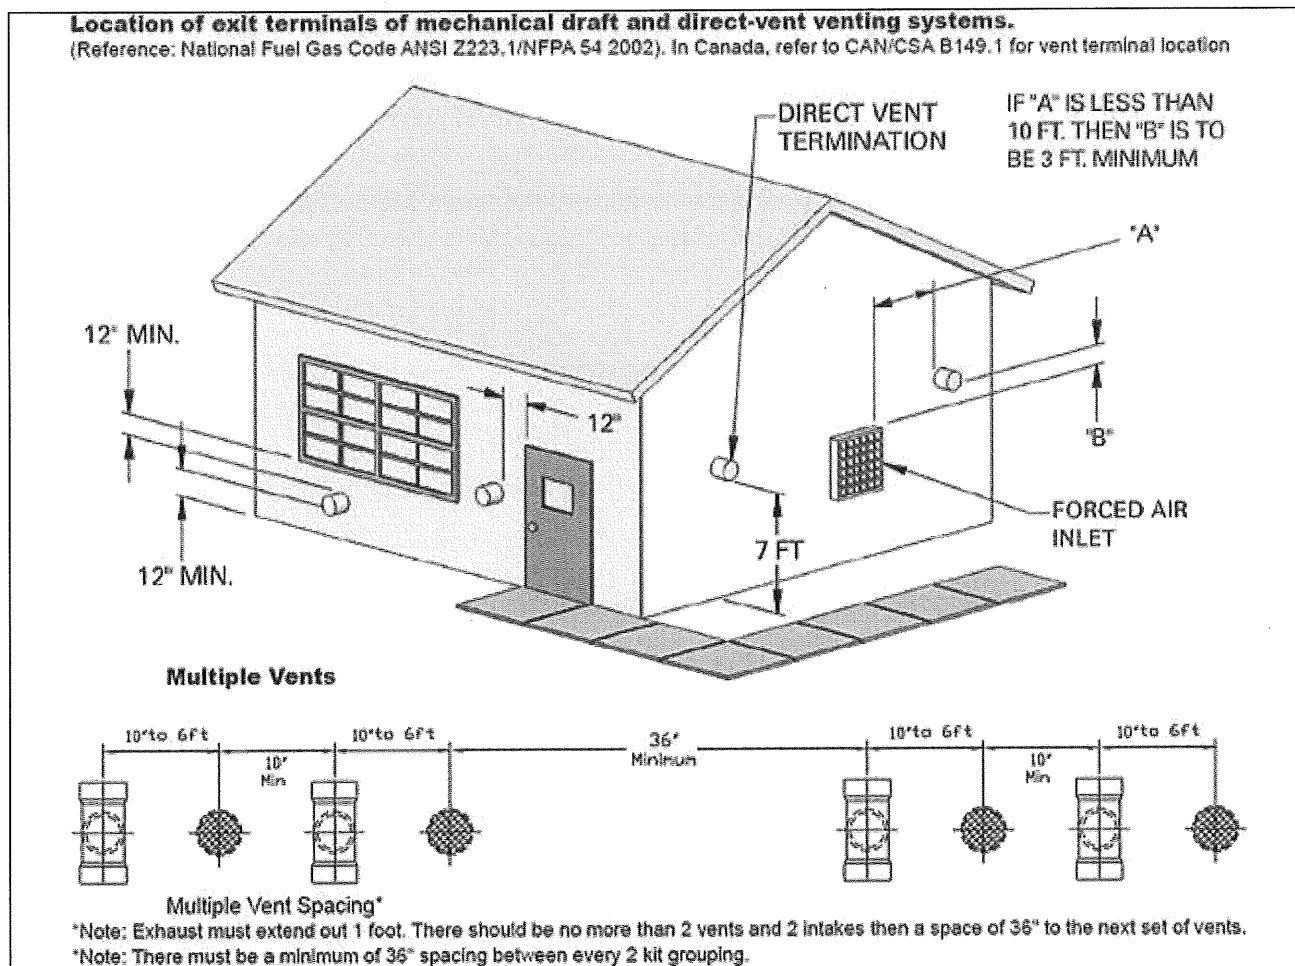

Figure 11 - NOTE: Drawing is meant to demonstrate system venting **ONLY**.
- Follow required minimum clearances located in Figure 11.